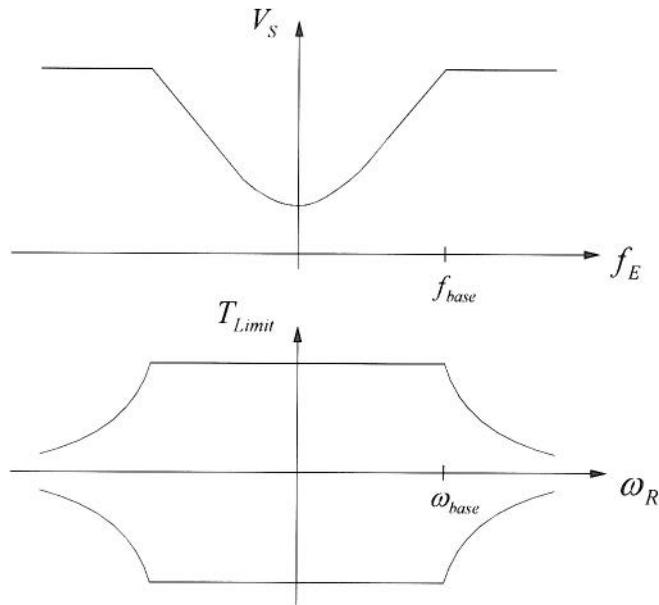

Figure Q6.1 Required stator voltage and maximum torque achieved as functions of speed
- (a) Figure Q6.1 shows graphs of the required stator voltage against electrical supply frequency and the torque limit as a function of rotor speed for an induction machine drive.